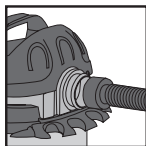

FIGURE 18
39. Your vacuum can be used as a powerful blower. To use your unit as a blower, clear hose of any obstruction. Insert machine hose end into blower port on rear of unit. **FIGURE 18.** Twist slightly to tighten the connection. Caution